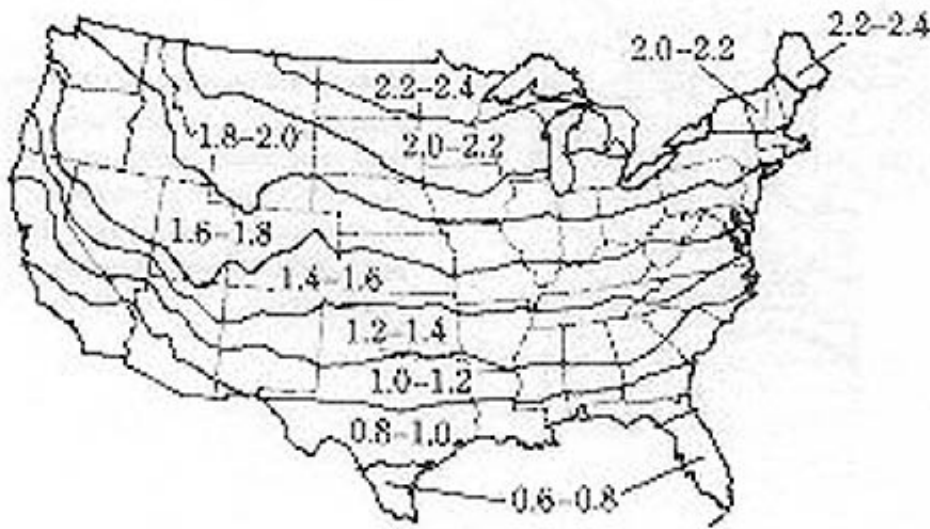

Figure 8: Use this map to find your conservation factor (CF). (Source: J. Douglas Balcolm, et al.)
Locate your building site on the map (Figure 8) to select the Conservation Factor (CF) to be used in your house design. Note that for each geographic zone the CF is expressed as a range. If your fuel costs are high (and whose aren't nowadays!), select the highest number.